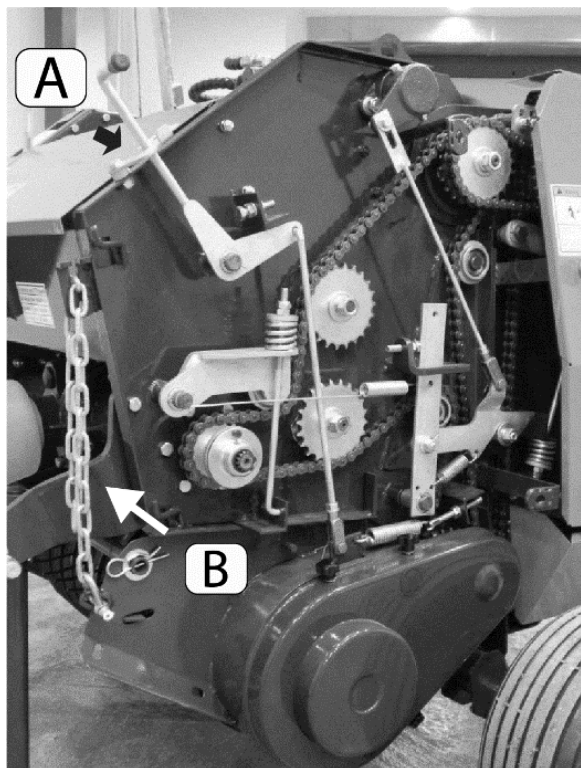

Figure 27 Left side of baler
- For optimal operation, the tines of the pickup should be about one (1) inch from the ground in normal conditions. In bumpy or rocky fields, a clearance of up to two (2) inches or more may be suitable to prevent damage to pickup components. For baling light hay cuttings or straw, the pickup may need to be lowered.
- Adjust the pickup height by lifting it with the lift lever (Figure 27, A) and using the lower limit chain (B) to keep it in place.
- The pickup may be lifted and locked in the transport position by means of the lift lever and transport lock (Figure 27, A).